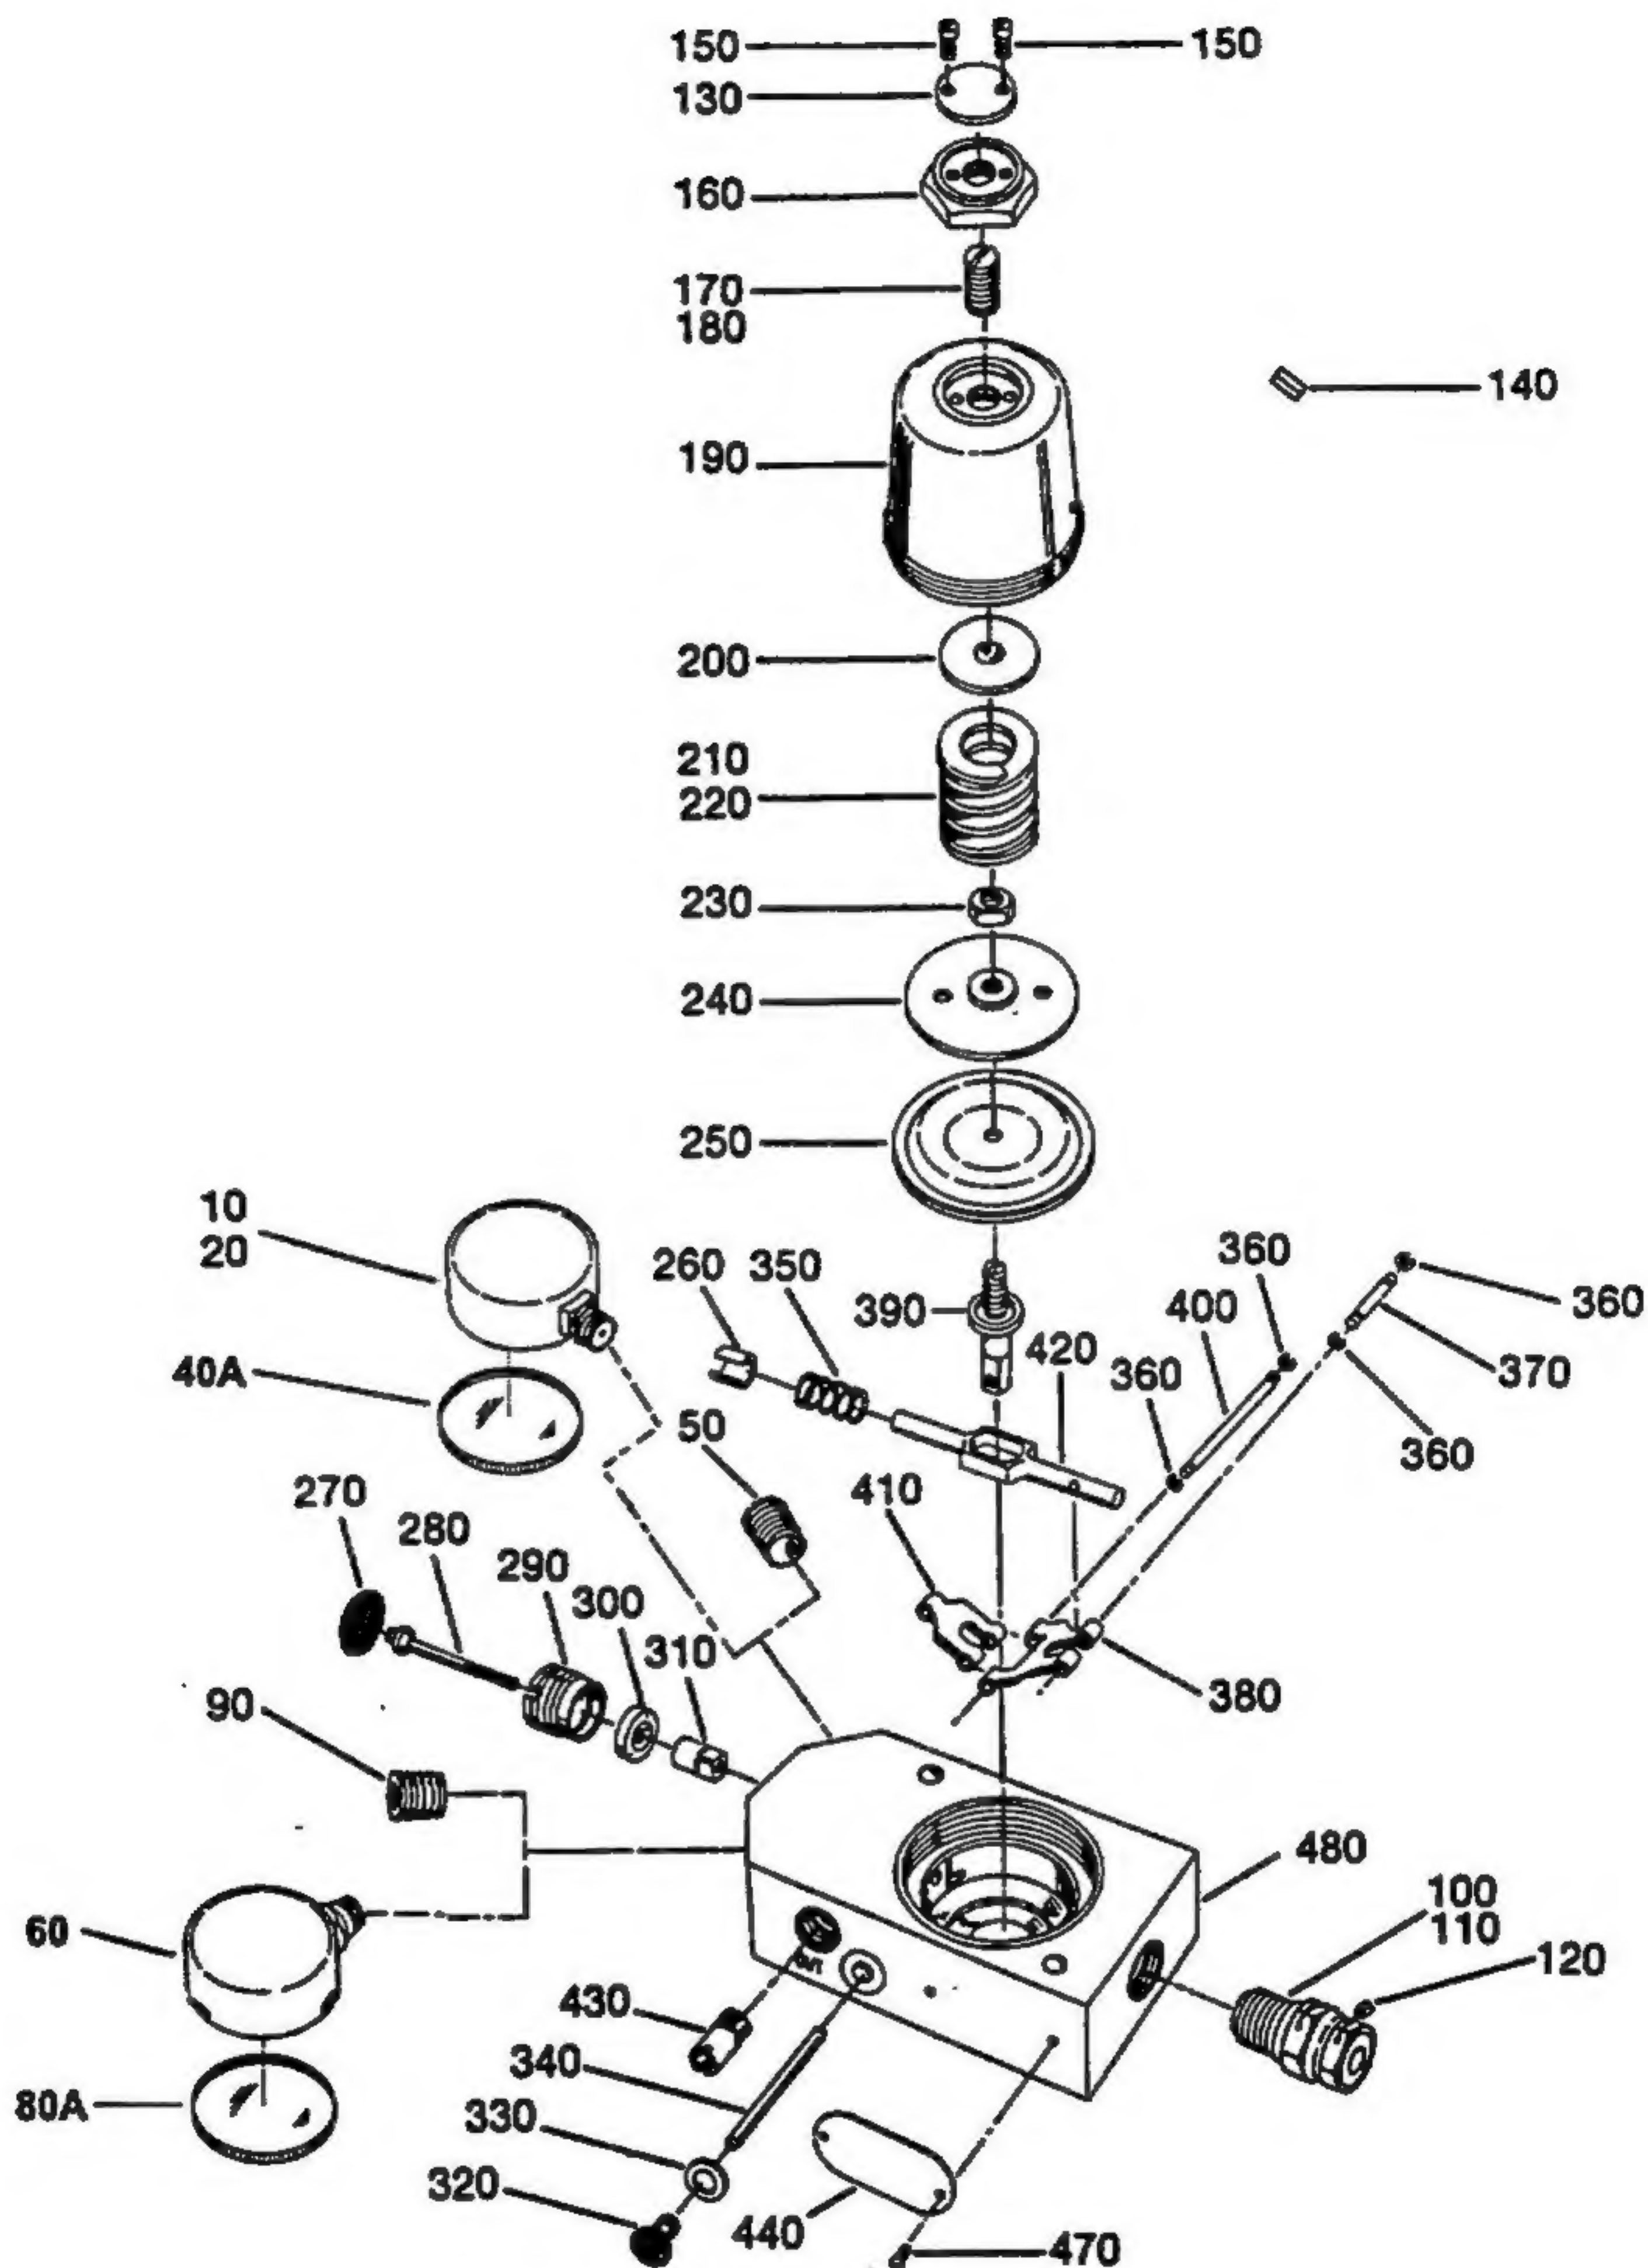

Figure 1: Oxygen Regulator Assembly
- A. Parts used on only one part number oxygen regulator assembly (see IPL Figure 1) are indicated by a letter symbol immediately following the description of a part in the "EFFECT CODE" column. An explanation of the letter symbols used is outlined below in Table 1001. A blank "EFFECT CODE" column following a part number indicates that the list part is common to all regulator assemblies.